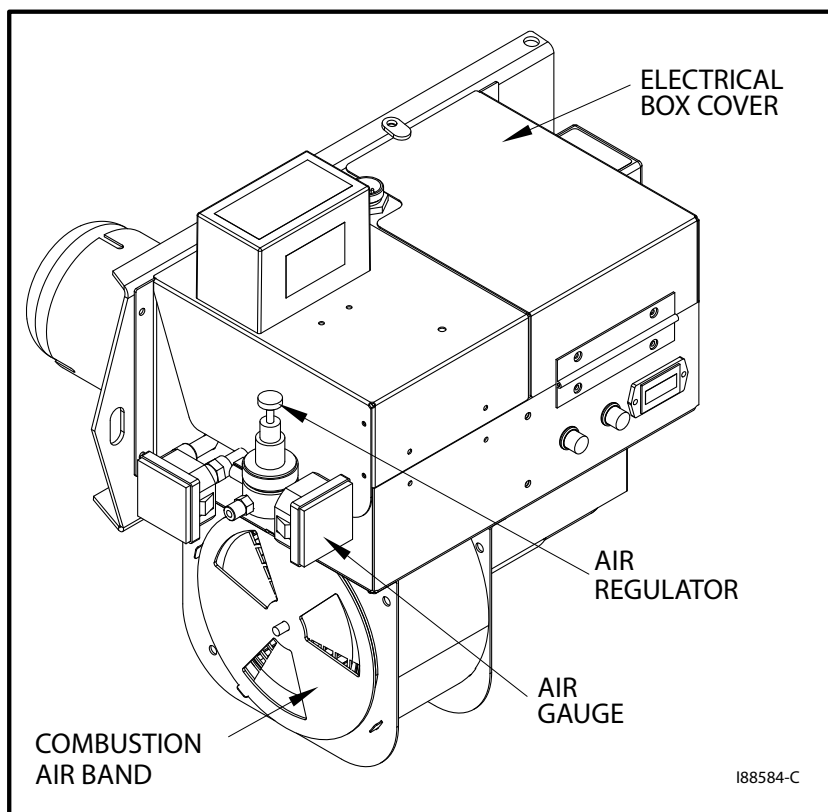

FIGURE 6A - Component Detail of the CB-125 Burner
4. Refer to Figure 6A to locate the air regulator. Loosen the locking nuts on the air regulator.
- Refer to Figure 6A to locate the combustion air band.
- Refer to Figure 6A to identify the combustion air band location on the burner.